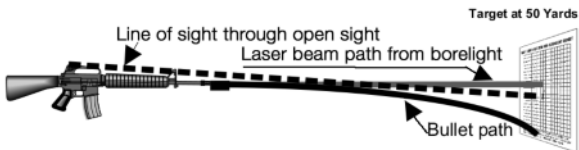

Figure 3-3
3. The optical scope is used to cant the barrel in an upward direction so that when a bullet is fired it will trace an arc to the target. An imaginary straight line drawn through a properly aligned weapon sight will trace a descending line that crosses the straight line from the bore of the weapon to the target. See Figure 3-3.